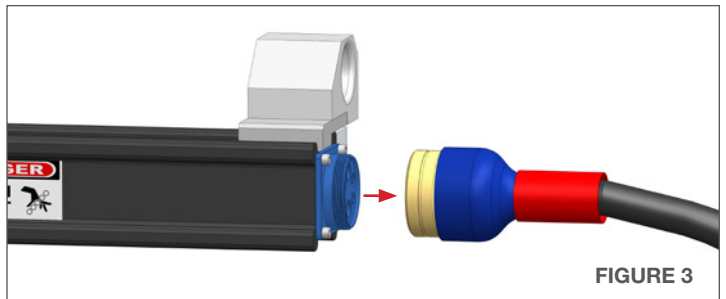

FIGURE 3
3. Disconnect the Control Box Umbilical from the end of the Horizontal Rail. **(Figure 3)**